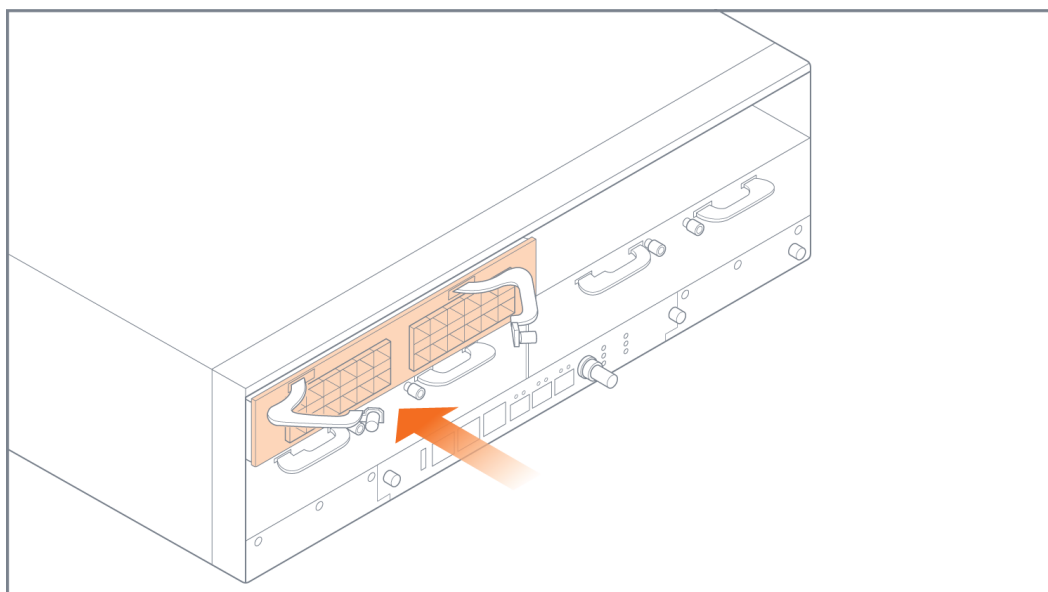

Figure 11 *Module Insertion*
2. Carefully slide the module into the bay until it mates with the mid-plane as shown in Figure 11 **Module Insertion**.